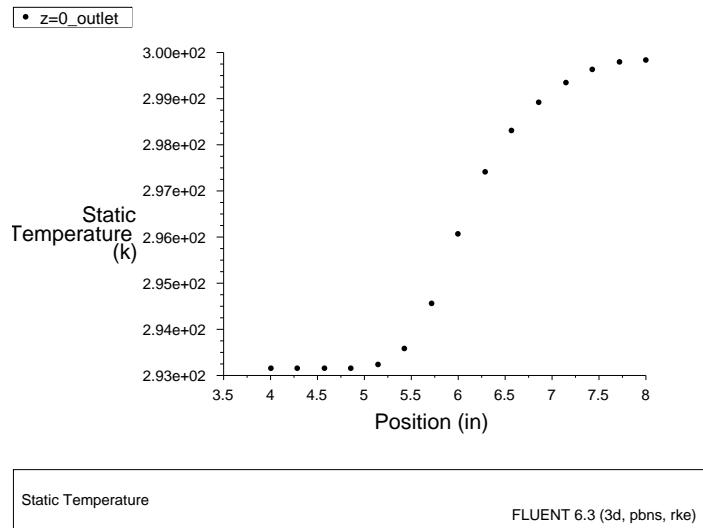

Figure 1.21: Outlet Temperature Profile for the Adapted Second-Order Solution
6. Display and save an XY plot of the temperature profile across the centerline of the outlet for the adapted second-order solution (Figure 1.21).